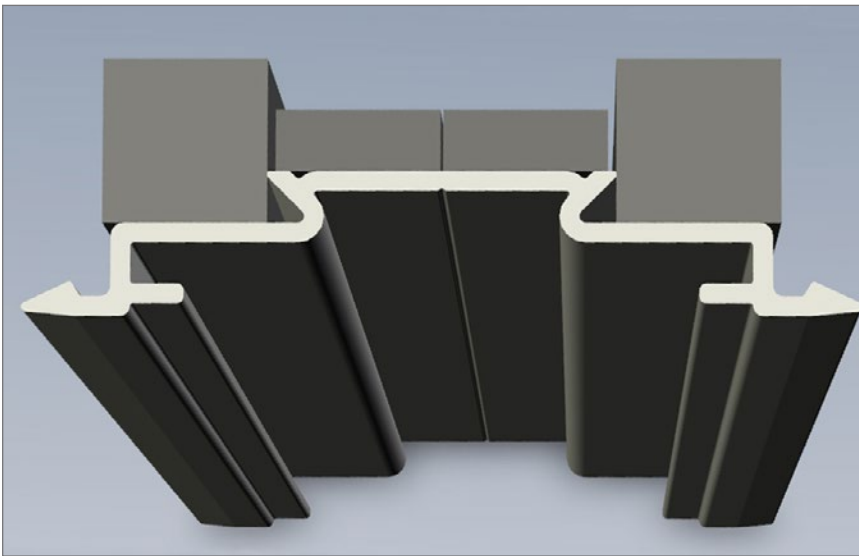
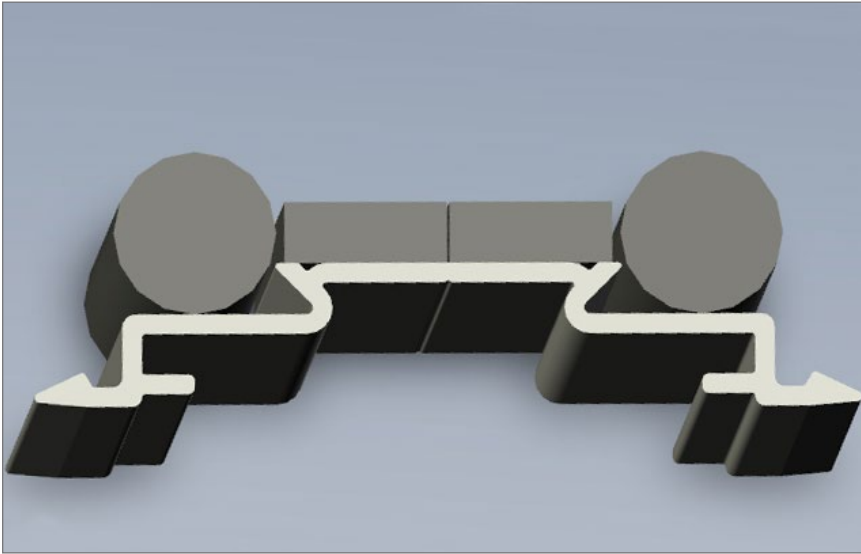

Figure 5: Wallflower with CSF tape applied to full height of Extrusion.
Figure 6: Wallflower with CSF tape applied to full height of Extrusion. Option to Figure 1.
STEP 1: Wallflower with CSF tape applied to full height of extrusion. QTY 1 layer of $\frac{1}{4}$ " thick x $\frac{1}{2}$ " wide (6mm x 13mm) CSF tape on either side of Wallflower back (broken at centerline) + QTY 1 layer of $\frac{1}{2}$ " thick x $\frac{1}{2}$ " wide (13mm x 13mm) CSF tape on either side of the first Wallflower extrusion drop (see Figure 5).
STEP 2: Wallflower with CSF tape applied to full height of Extrusion (see Figure 6). QTY 1 layer of $\frac{1}{4}$ " thick x $\frac{1}{2}$ " wide (6mm x 13mm) CSF tape on either side of Wallflower back (broken at centerline) + QTY 1 layer of $\frac{1}{2}$ " (13mm) diameter closed cell backer rod on either side of first Wallflower extrusion drop (Figure 5).